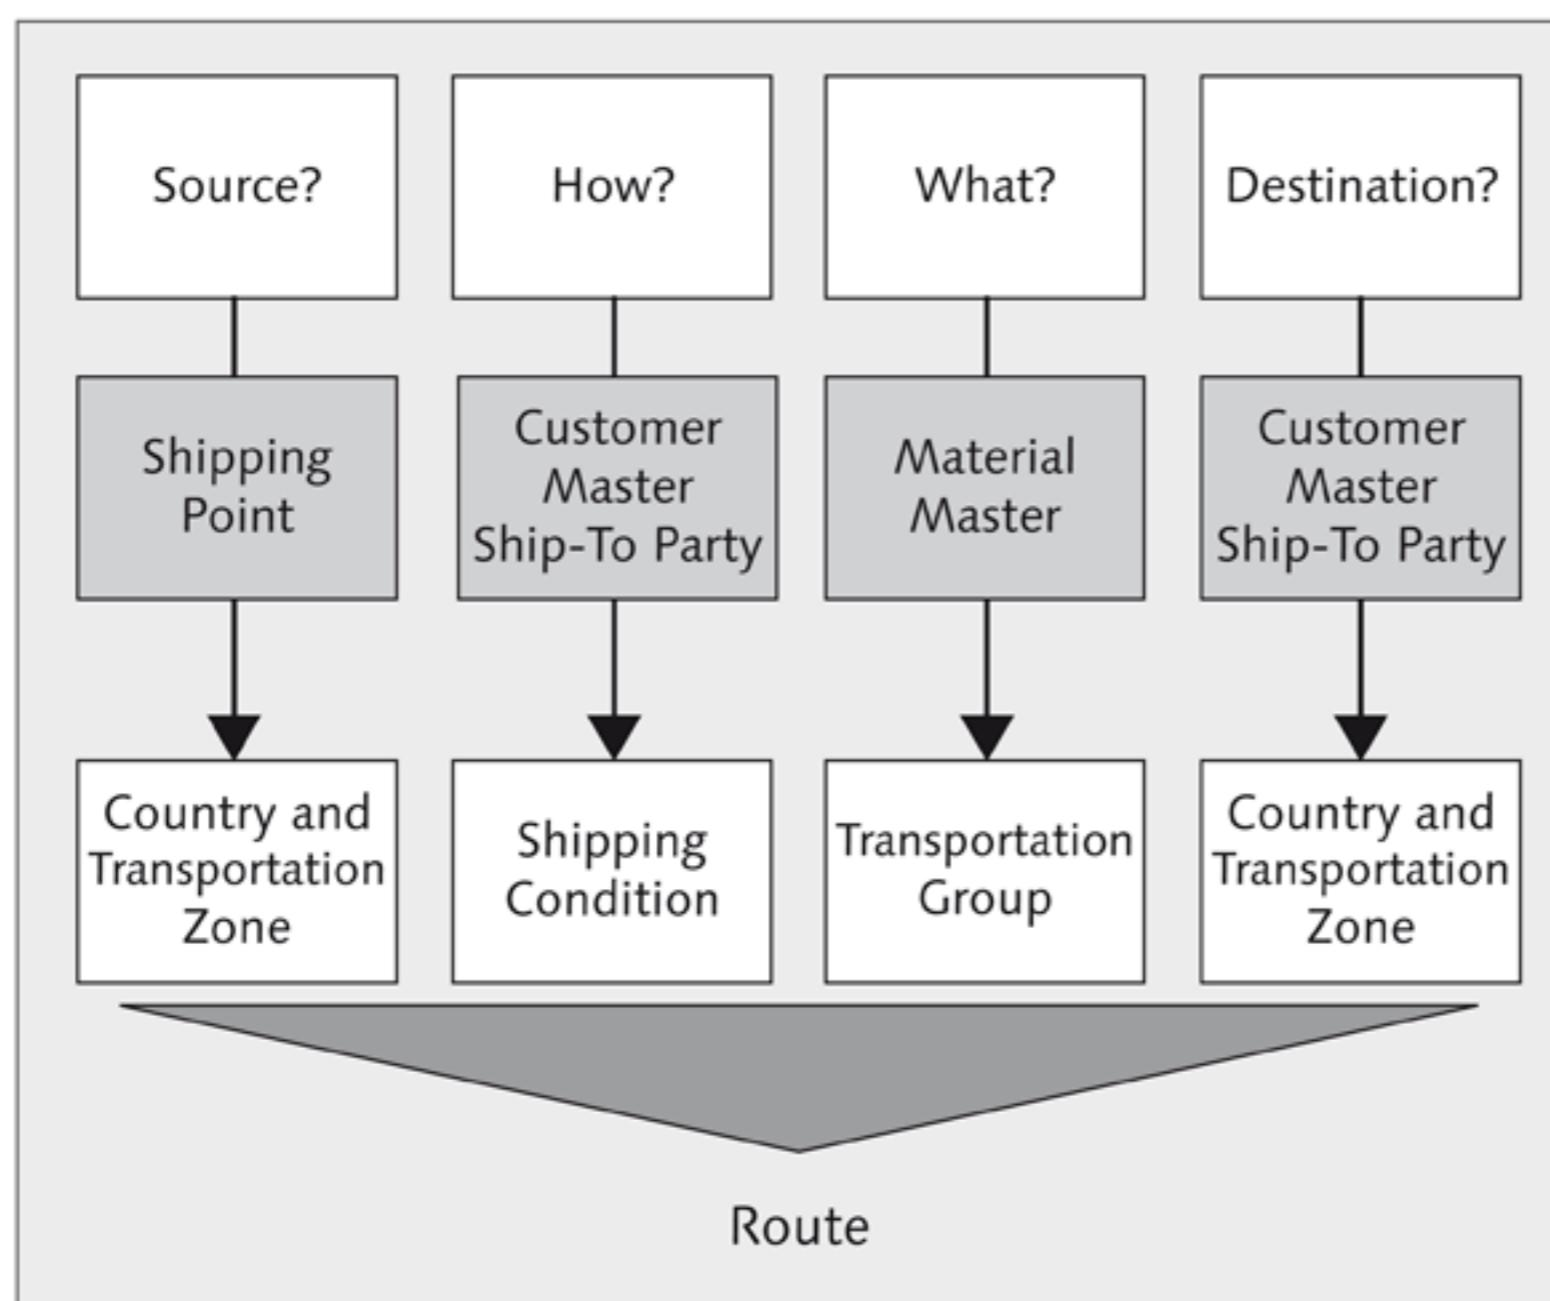

Figure 2.28 Sales Order Route Determination
- ▶ If you change the ship-to party partner data in the sales order, the route will be redetermined. In SAP Customizing, you also maintain settings for each delivery type whether the transportation route determination will be executed again when delivery processing starts. Figure 2.28 shows how route determination is performed according to steps just mentioned.